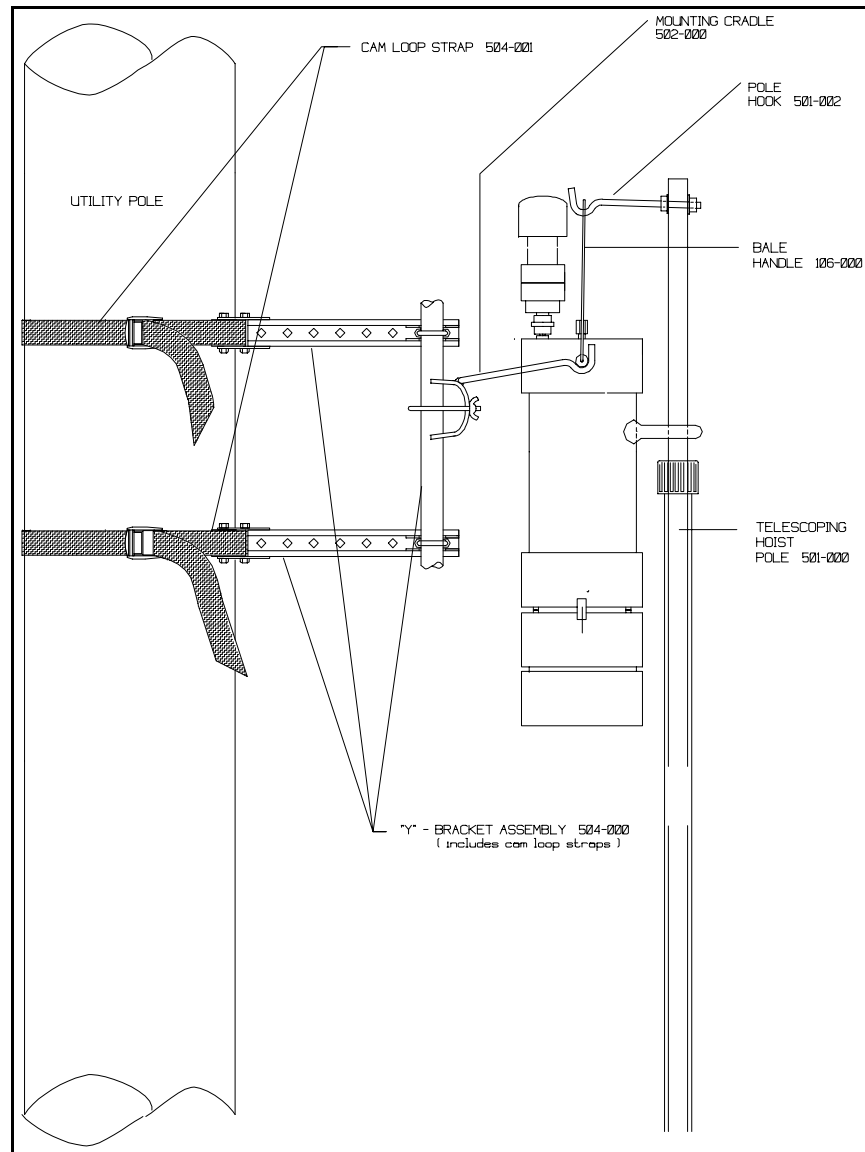

Figure 4.1. Mounted Sampler
should be strapped securely to some other suitable structure—utility pole, parking meter, fence post, *etc.* (See Figure 4.1). Available separately from Airmetrics is a Y-Bracket Assembly which attaches to poles and provides a mast for the mounting cradle. (Also shown in Figure 4.1).
13. Using the hoisting pole, hook the bale assembly bar and raise the sampler, as vertically as possible, to the mounting cradle. This position not only more easily accommodates the sampler's weight, but prevents the hook from hitting and possibly dislodging or breaking the preseparator/filter holder assembly. (See Figure 4.1).
1. Remove the sampler from the mounting cradle using the hoisting pole. Position yourself directly under the sampler, hook the bale assembly bar, and lower the sampler as vertically as possible. This vertical take-away not only accommodates the sampler's weight, but prevents the hook from dislodging the rain cap or damaging the preseparator/filter holder assembly (see Figure 4.1).